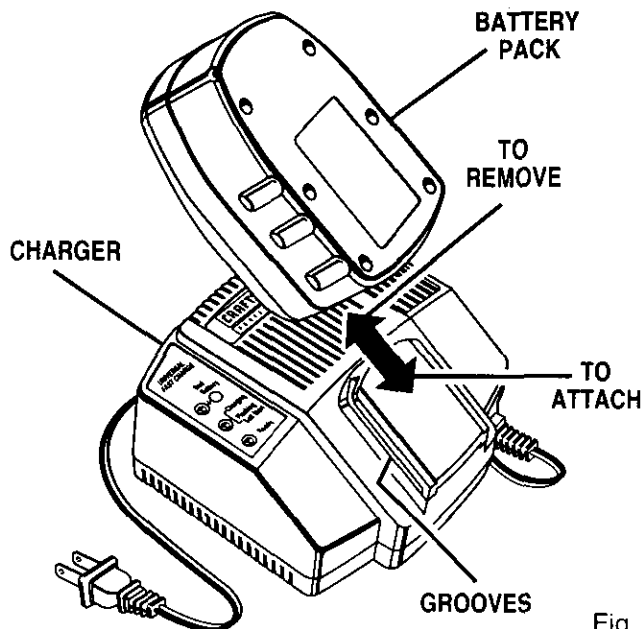

Fig. 4
- Attach battery pack to charger by aligning raised ribs on battery pack with grooves in charger, then slide battery back onto charger. *See Figure 4.*